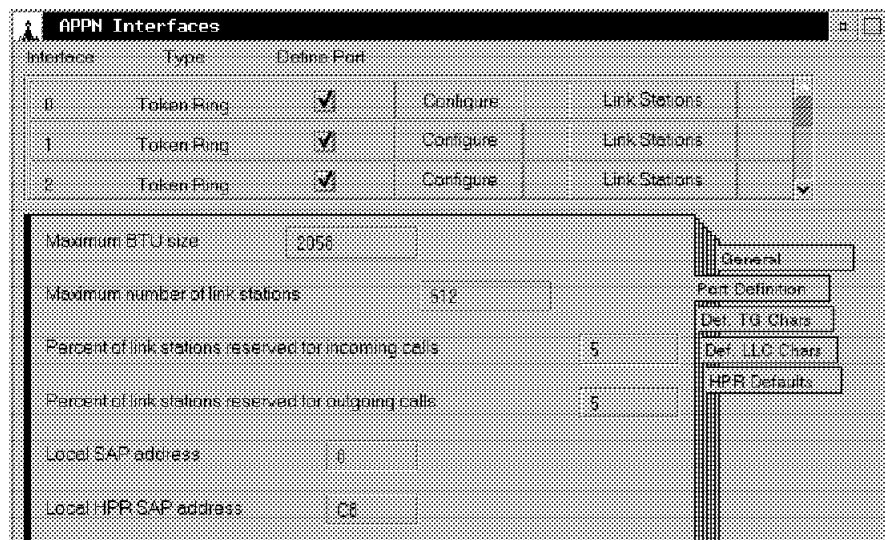

Figure 26-22. APPN Port Definitions for Interface 0
- Select the **Port Definition** tab on the notebook, where the local APPN SAP 8 and local HPR SAP C8 can be specified, as in Figure 26-22 below.